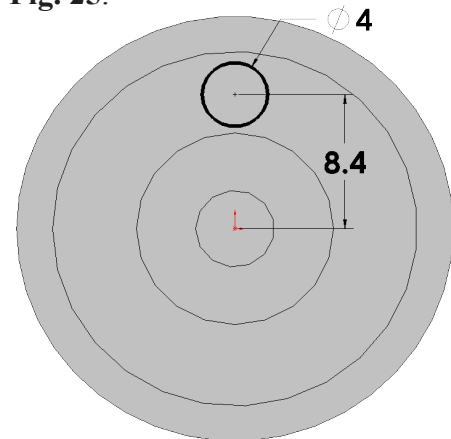

Fig. 25
Step 4. Click **Circle**  (S) on the Sketch toolbar.
Step 5. Draw a circle for the hole directly **above** the Origin , **Fig. 25**.
Step 6. Click **Smart Dimension**  (S) on the Sketch toolbar.
Step 7. Dimension as shown in **Fig. 25**.